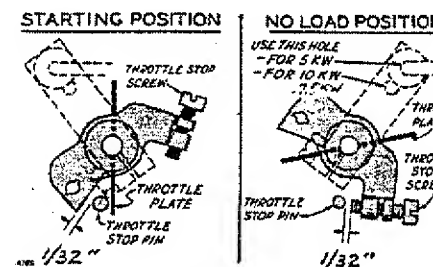

Fig. 19 - Throttle Lever and Stop Pin
- With the plant stopped, check the clearance of the carburetor throttle stop lever. The clearance between the lever and stop pin should be approximately 1/32", Fig. 19. This clearance can be adjusted by loosening the linkage ball joint and turning the ball joint on the linkage threads as necessary to lengthen or shorten the over-all length of the linkage. Be sure that the lever to which the link connects is securely clamped on the carburetor throttle shaft.